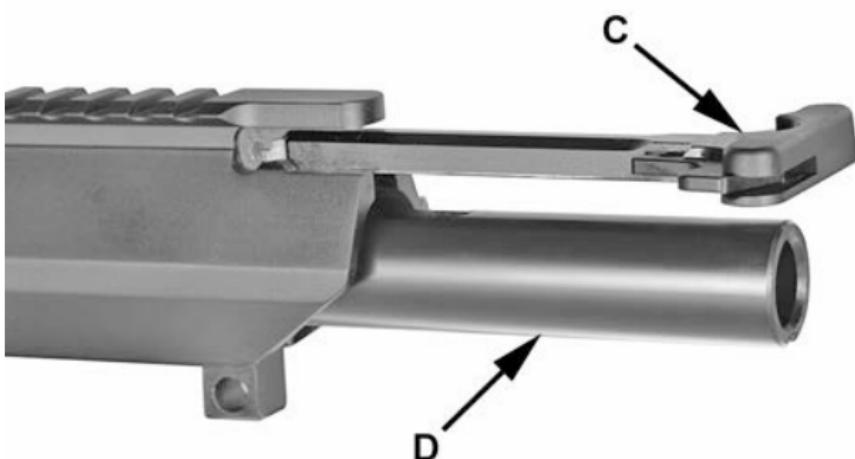

Figure 44
1. Engage and partially insert charging handle (C). Install bolt carrier (D) so that slot in carrier engages tab on charging handle. Push carrier and charging handle into receiver. See figure 44.